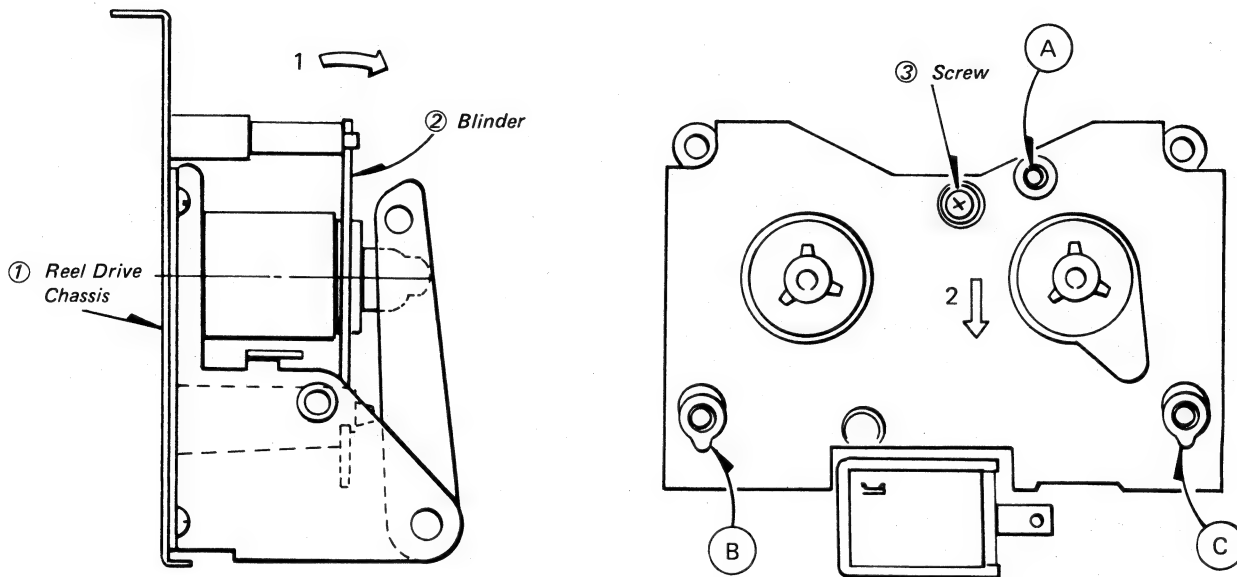

Fig. 5-18 Blinder Removal and Installation.
5-2-2 Replacing the Blinder (see Fig. 5-18)
2. Remove the screw ③ shown in Fig. 5-18.
3. Move the blinder in the arrow 1 and 2 directions in Fig. 5-18 for removal.